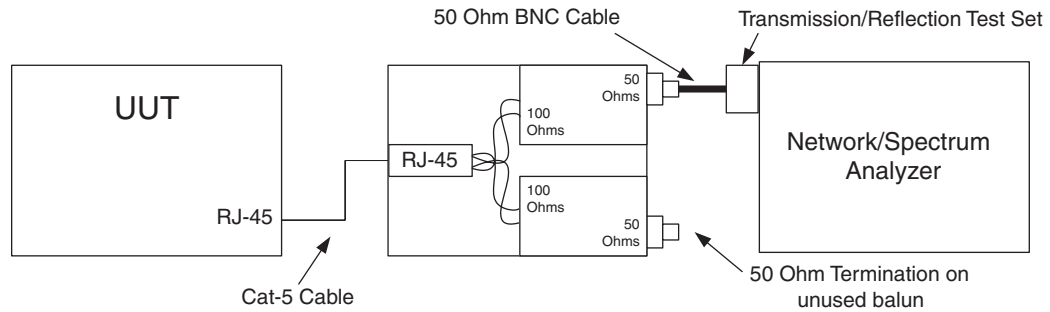

Figure 16-1. Test Setup for 100BASE-TX Receiver Return Loss
4. Connect the test equipment and UUT as shown in Figure 16-1.